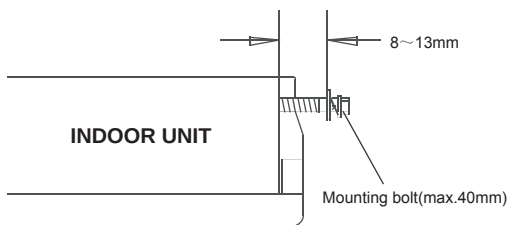

Fig. 5-13
Prepare the mounting bolts on the unit.(Refer to Fig. 5-13)
- Hang the unit on the hanging arm by sliding backward. Securely tighten the mounting bolts on both sides. (Refer to Fig. 5-13)